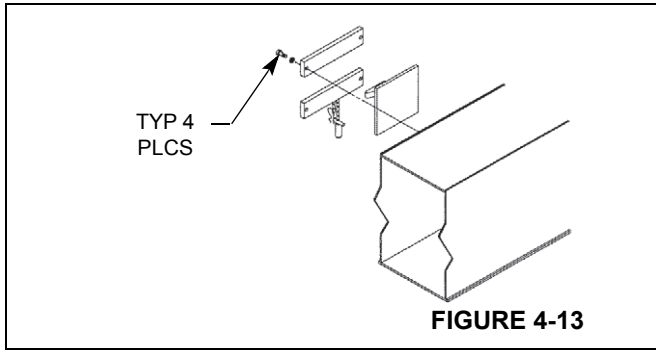

FIGURE 4-13
2. Loosely bolt the hook assembly to the side of the first boom section, Figure 4-13.